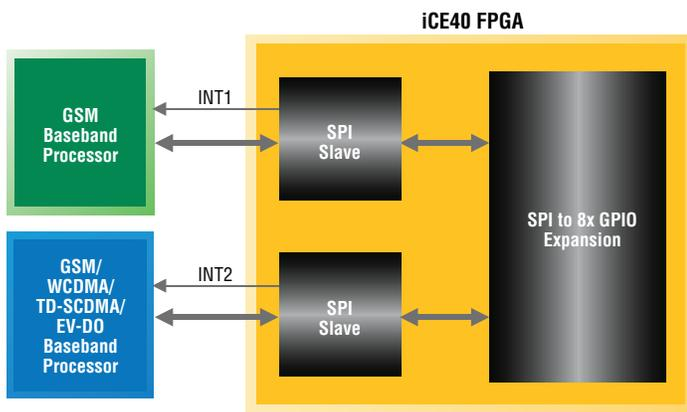

Figure 3: Interprocessor communication using a SPI bridge with shared mailbox registers.
- Communicate through a mailbox (Figure 3)
The example shown in Figure 3 utilizes the processor's SPI port. Two SPI slaves are implemented inside the iCE40 FPGA along with a shared mailbox structure made of built-in block RAM (BRAM) with independent read and write operations. As compared to the dual-port RAM structure, this tremendously reduces the number of signals which further simplifies PCB layout and software implementation. iCE40 FPGAs can be customized specifically to help simplify software implementation.